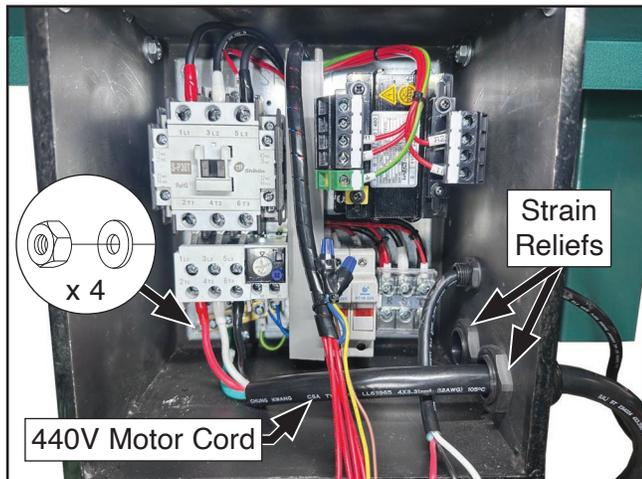

Figure 16. Mounting board and motor cord components installed for 440V operation.
- Install 440V mounting board in control box and secure using nuts and washers removed in **Step 6** (see **Figure 16**).
- Loosen strain reliefs on side panel of control box and insert 440V motor cord through closest strain relief, then tighten to secure cord (see **Figure 16**).